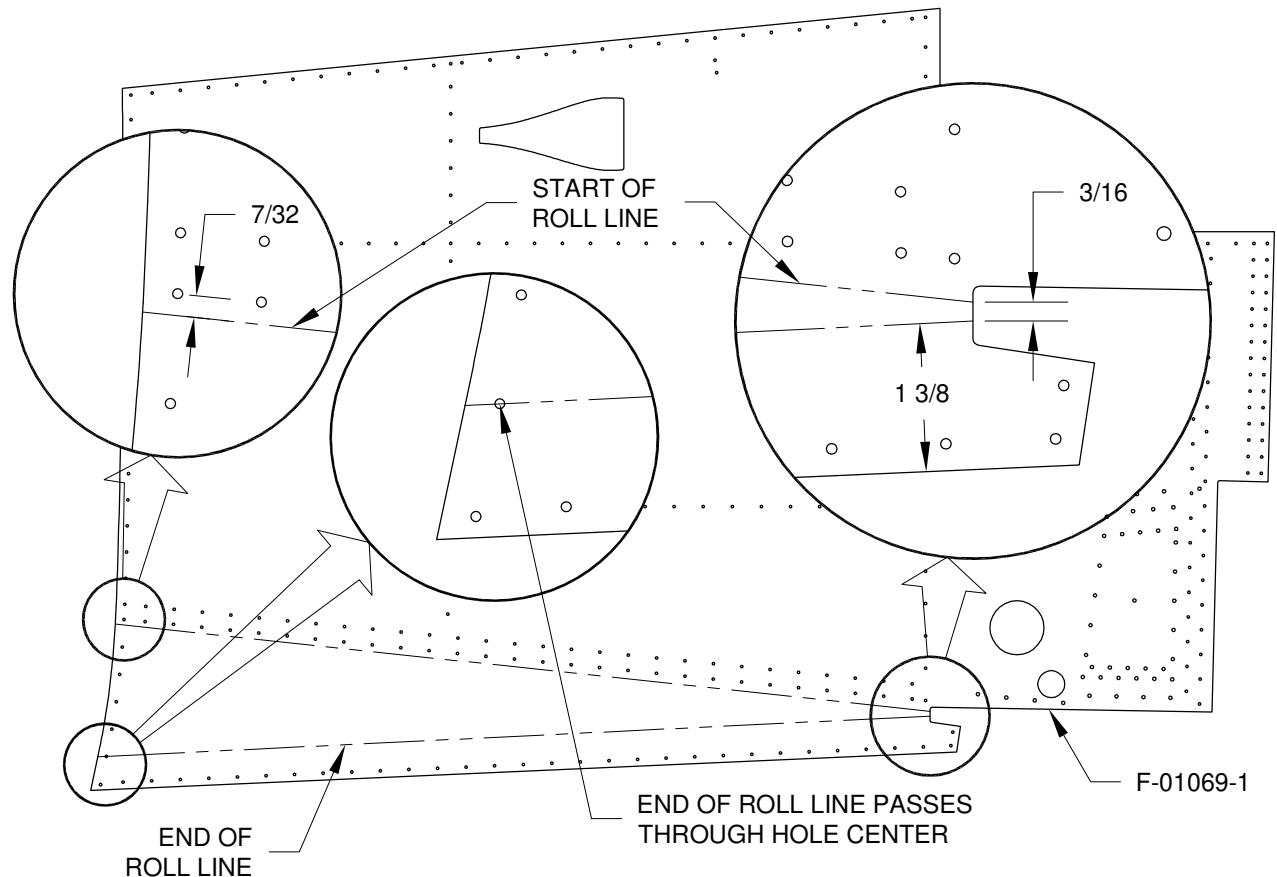
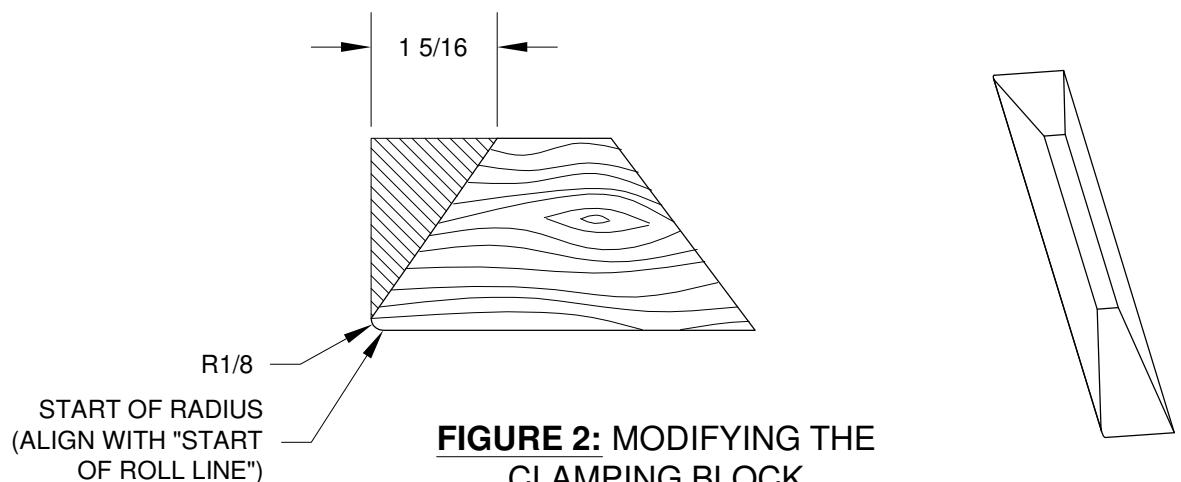

FIGURE 1: MARKING THE CURVE LINES
FIGURE 2: MODIFYING THE CLAMPING BLOCK
Step 1: Remove the vinyl from the inside face of both F-01069-1 Fwd Side Skins. Using the dimensions given in Figure 1, draw the "Start of Roll Line" and the "End of Roll Line" on the F-01069-R-1 Fwd Side Skin. Repeat this step for the F-01069-L-1 Fwd Side Skin. The left fwd side skin is a mirror of the right.
Step 2: Modify the Clamping Block to match the dimensions given in Figure 2. Note the radius along the bottom edge of the clamping block. If using a normal 2x4 it is permissible to use the manufactured radius even though it may be slightly larger than 1/8 inch.
Step 3: Clamp the F-01069-R-1 Fwd Side Skin to a table, as shown in Figure 3, using the Clamping Block. Align the "Start of Radius" (see Figure 2) with the "Start of Roll Line" (see Figure 1). Be sure to align the "Start of Radius" not the edge of the block with the "Start of Roll Line"! Double check that you are about to bend the fwd side skin in the correct direction, the outboard face of the skin should be down against the table with the inboard face up.